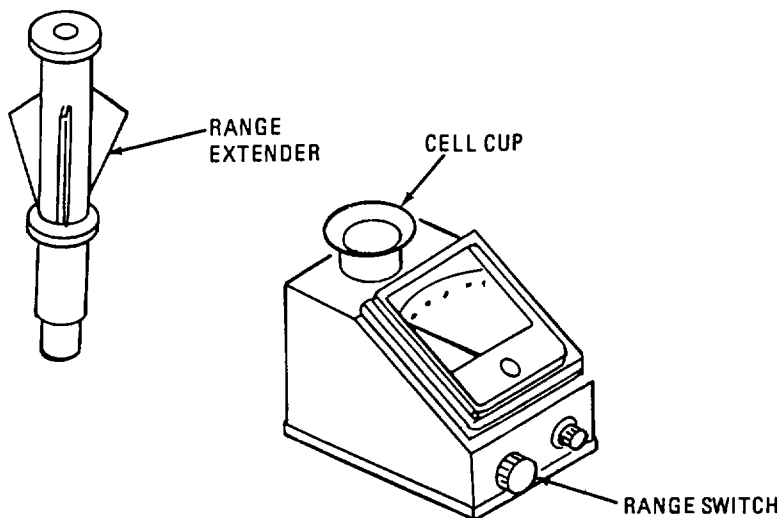

Figure 2-12. Total Dissolved Solids (TDS) Meter.
- k. Total Dissolved Solids (TDS) Meter. The portable TDS meter (figure 2-12) is used to measure total dissolved solids in raw, brine and product water.